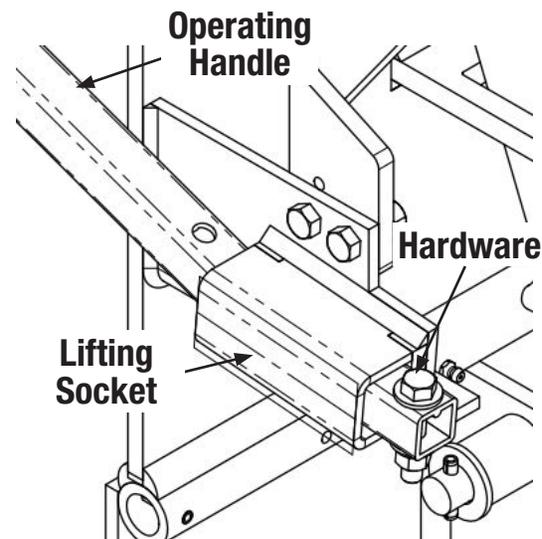

Figure 7
- Capture the operating handle in the lifting socket using hardware supplied. See **Figure 7**.